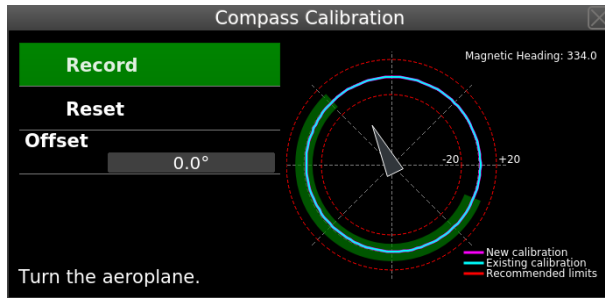

Figure 1: Compass calibration dialog - first step is in the progress.
- In the second step, this remaining offset error is entered manually. In order to obtain the offset error, aircraft shall be directed into two or three known reference magnetic headings. Write down the differences between the reference magnetic heading and Nesis heading shown on the dialogue on figure 1. Average value of the differences, gives the final offset, which should be entered into Nesis. Note that the second step can be done much later (a few days or weeks) than the first step.
Figure 1 shows compass calibration dialog.
the dialogue on figure 1. This error is more or less constant regardless to the direction.